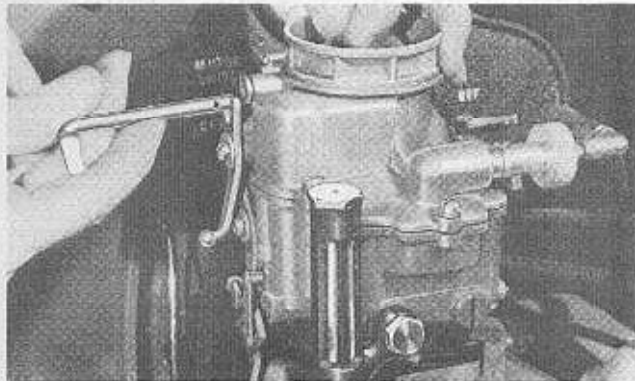

Fig. 42
**70** Check float level, using glass tube gauge #9510-D with carburetor on final test fixture #9350-A, as shown in Fig. 42. Fuel level should be 11/16" plus or minus 1/32" below upper face of main carburetor body, to bottom of bubble or meniscus in the glass tube. See page 10, Subject 9510 for correct float level for other types.
**72** With choke plate open, be sure pawl (78-9537) and pawl spring (78-9587) hold it so it will not rattle. The arm on choke shaft must sometimes be bent to prevent any possibility of choke plate rattling. This can be done as shown in Fig. 42, by using an accelerating pump rod (78-9531) from which spring and ball retainer have been removed.